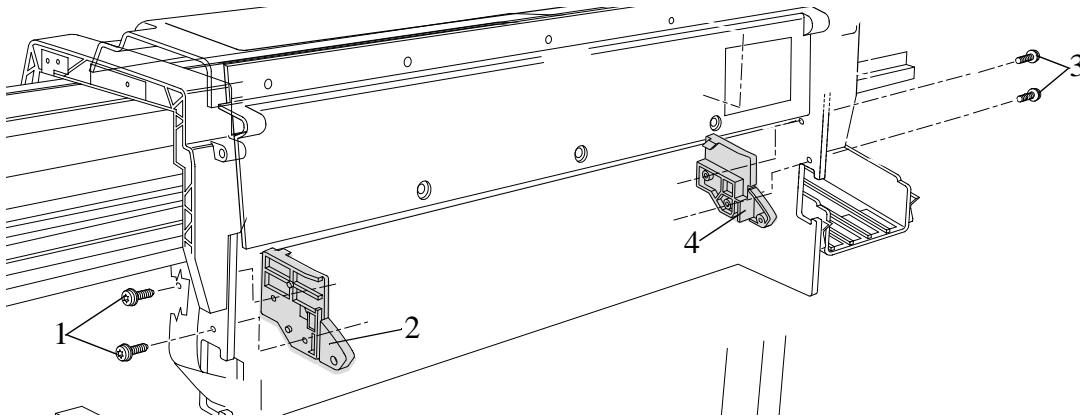
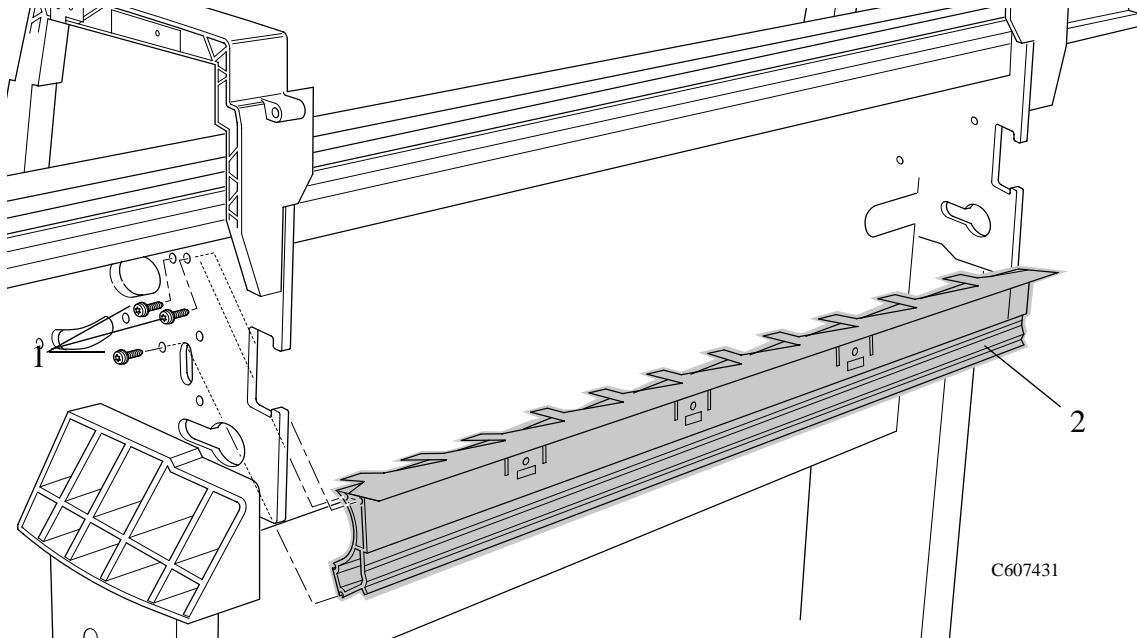

Figure 72: Platen Mounts
Figure 75: Roller Guide
Refer to Figure 72 to Figure 75.
2. Remove the two T-15 screws (item 1) securing the left hand rear platen mount (item 2) (refer to Figure 72)
3. Remove the two T-15 screws (item 3) securing the right hand rear platen mount (item 4) (refer to Figure 72).
For the following steps refer to Figure 75.